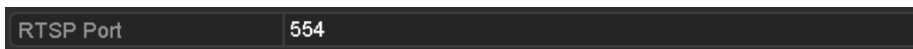

Figure 11. 18 RTSP Settings Interface
2. Select the **More Settings** tab to enter the More Settings menu, as shown in Figure 11. 16.